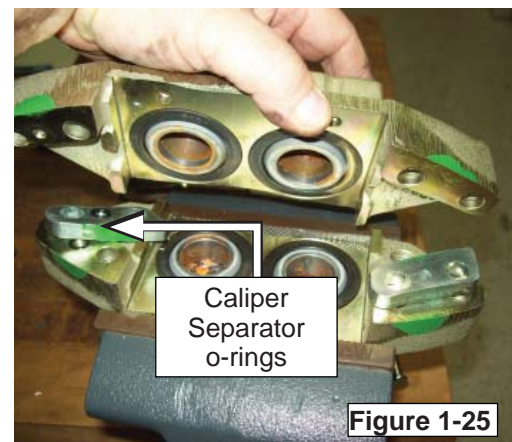

Figure 1-25
- Separate the caliper assembly and note the position of the O-rings present in the brake separator plates. NOTE: Only the passages used for brake operation will have O-rings (FIGURE 1-25).